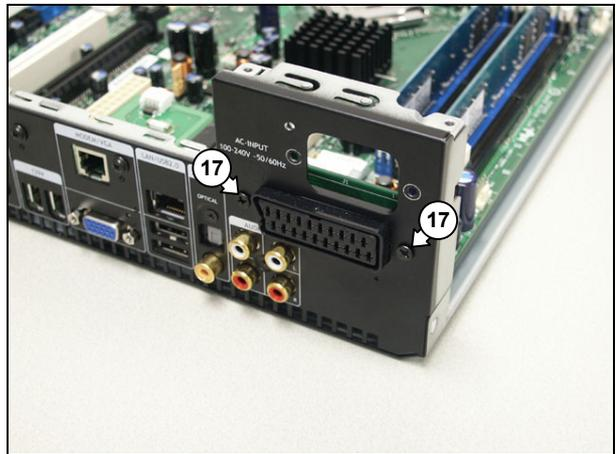

Figure 12.15-8
5. Remove the 2 mounting screws (17) from the SCART connector. See Figure 12.15-8.